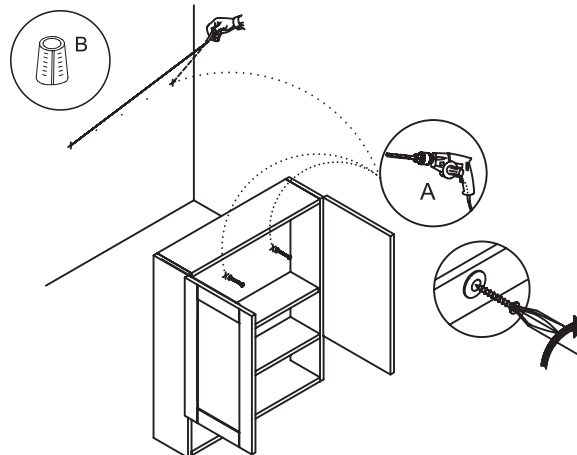

Figure 1
2. Determine the desired location of the cabinet. **NOTE:** It is recommended that the cabinet be installed to at least 1 wall stud. In order to locate wall studs, you can use a stud finder or tap along the wall until you find a spot that sounds solid. If you are unable to locate a wall stud, it is recommended that you use wall anchors (B - not included) to secure your cabinet. Figure 1.
- 3: Secure the cabinet to the wall by inserting (x 4) 2" screws with (x 4) washers through the backrails of the cabinet and into the wall. Figure 1.